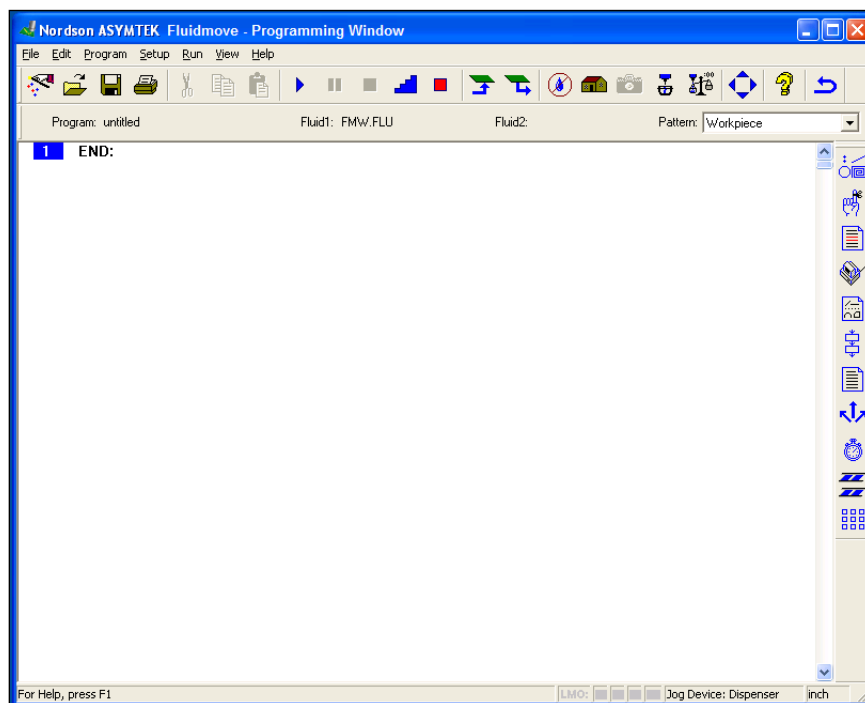

Figure 4-14 Programming Window
- ▶ The Programming Window opens (Figure 4-14).